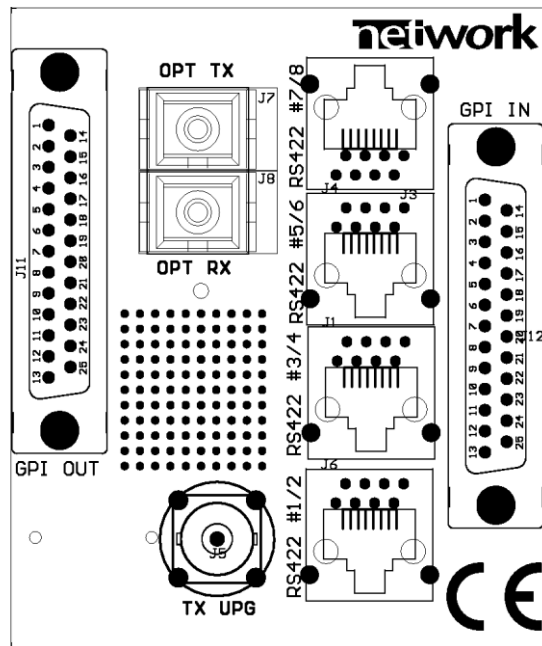

Figure 2: D-422-MG-C1 Connector module
The D-422-MG has a dedicated connector module: D-422-MG-C1. This module is mounted at the rear of the sub-rack. The module is shown in figure 2. Note that this connector module always occupies two (2) slots in the sub-rack.
RS-422 shall be connected to one of the RS-422 connectors, positioned as shown in figure 2. The connectors are RJ-45 style, 8-pin modular jacks. Each connector has two RS-422 ports, referred to as ports 1 and 2 in the below table. In the event that only one port is in use, an RJ-11 style 4/6 (4-wire, 6-position) jack can be used instead. Signals marked as inputs on the D-422-MG shall be connected to the outputs of the connected devices, and vice versa. The columns for DB9 VTR Master and Slave show which pin on the 9 pin DSUB should be connected to the signal. Note that when connecting an active device instead of a straight-through cable between a VTR master and slave (device and controller), one end of the active device must use a crossed cable. The table below takes the crossing on the slave side into consideration.